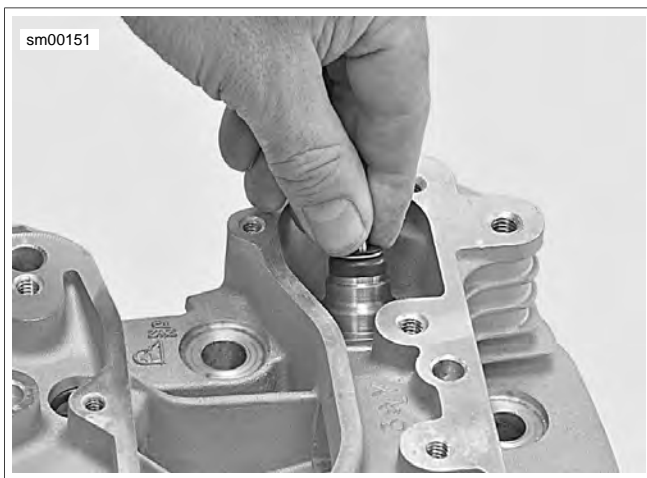

Figure 3-62. Valve Seal and Lower Collar Assembly Installation
7. See Figure 3-62. Coat the sleeve with oil and place a new seal and lower collar assembly over the valve stem and onto valve guide.